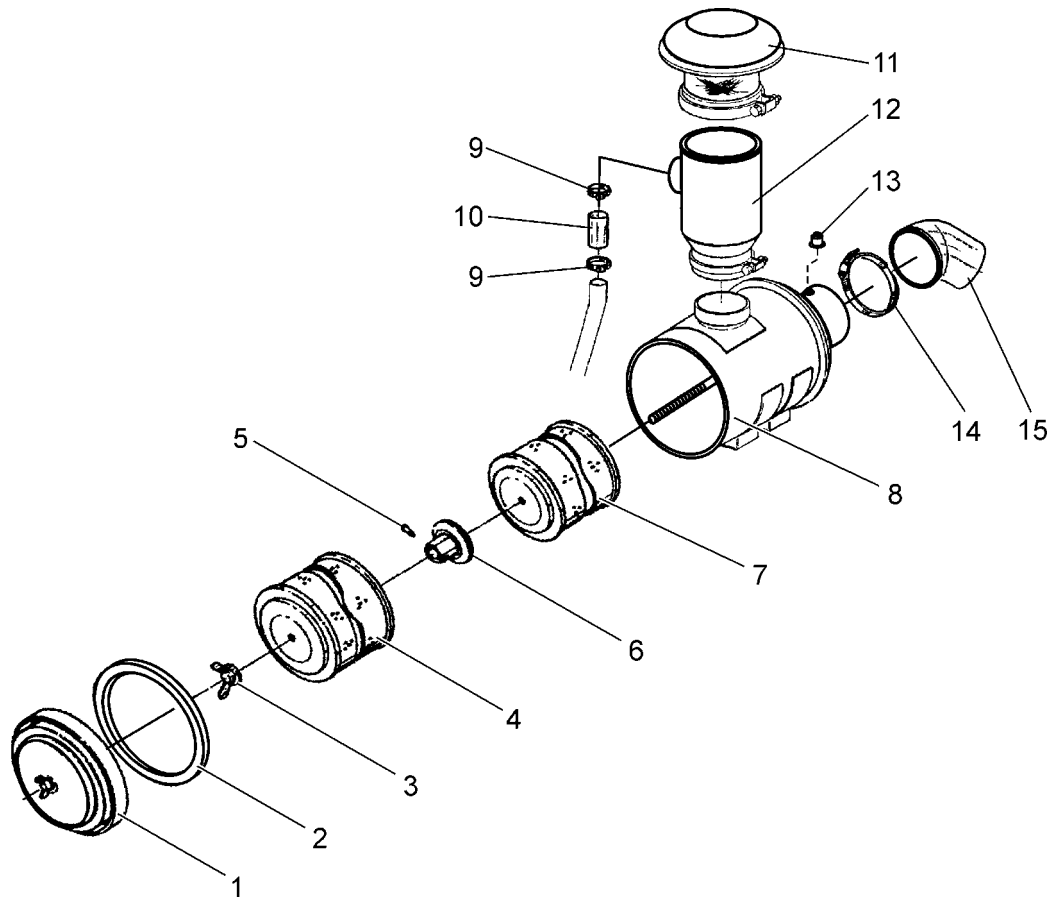

Fig. 5.2. Air Cleaner with Connections
#### Removal (Fig. 5.2)
**Installation (Fig. 5.2)**
1. Insert the open end of primary element (4) into air cleaner body (8) and secure with wing nut (3). Install cover (1) with seal ring (2) onto air cleaner body (8). Secure the cover to the body with locking clamps making sure the cover is not cocked.
**Removal (Fig. 5.2.)**
1. Loosen nut on cover (1) and remove the cover.
2. Unscrew wing nut (3) and remove primary element (4).
3. Remove cotter pin (5) and unscrew nut (6). Pull safety element (7) out.
4. Clean the inside of body (8) with a damp cloth.
5. Check the condition of the gasket at nut (6) securing the safety element. If the gasket is damaged or missing, replace the gasket and the nut.
**Installation (Fig. 5.2.)**
1. Install new safety element (7) into body (8) and secure it with nut (6). Then secure the nut with cotter pin (5).
2. Install new primary filter element (4) onto safety element (7) and secure it with wing nut (3).
3. Install cover (1) and secure it with the nut making sure the cover is not cocked.